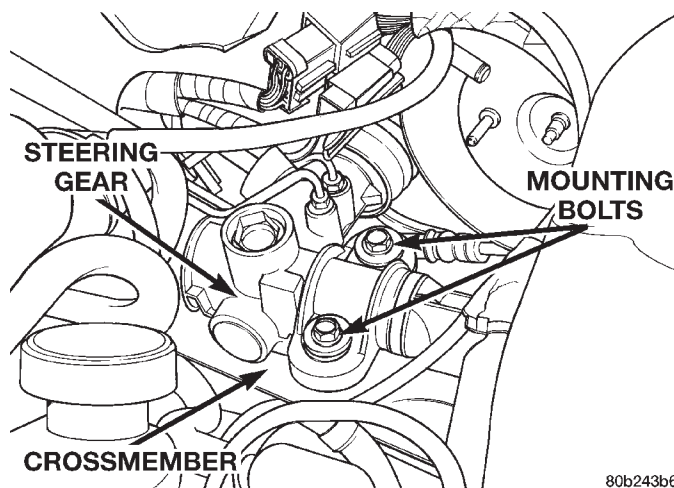

Fig. 14 Steering Gear Attachment To Crossmember (Left Side)
(17) Remove the master cylinder with the brake tubes connected, from the vacuum booster. Carefully position the master cylinder in an upright position on the left side valve cover of the engine.
(18) Remove the vacuum supply hose to the vacuum booster at the check valve in the vacuum booster. Position the vacuum hose out of the way.
(19) Remove the 2 bolts attaching the left side of the steering gear to the crossmember (Fig. 14).
(9) Slide steering gear and intermediate shaft back into dash panel sealing boot. Align the steering gear mounting holes with its mounting holes in crossmember.
(10) Loosely install the bolts mounting the left side of the steering gear to the crossmember (Fig. 14).